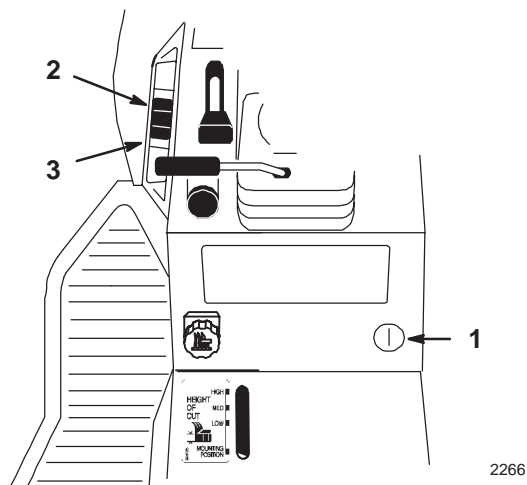

Figure 25
The attachment power lift (optional on some models) (Fig. 25) is used to raise and lower attachments.
1. Turn key to the “ON” or “RUN” position (Fig. 25).
2. Push the lift switch in the “UP” direction to raise the attachment lift (Fig. 25). This will lift and hold the attachment in the up, or raised position.
2. Push the lift switch in the “DOWN” direction to lower the attachment lift (Fig. 25). This will lower the attachment lift.